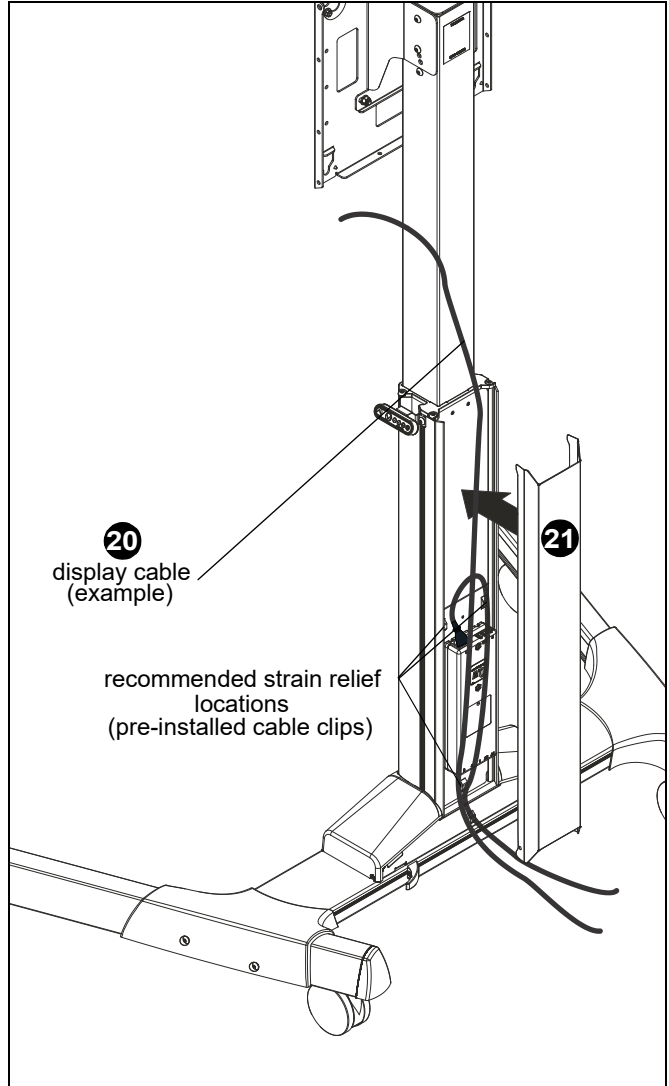

Figure 11
20. Attach display and signal cables to power source. Use cable ties (K) to route as necessary. (See Figure 11)
21. Reinstall back cover to column assembly (T). (See Figure 11)